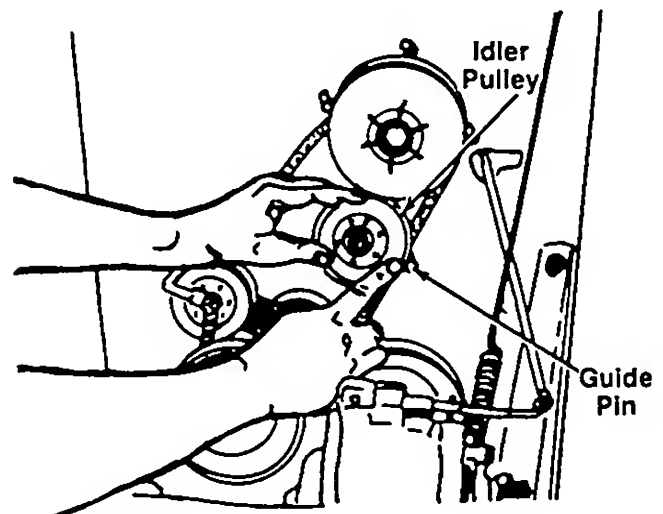

FIGURE 24.
11. When sliding the idler pulley on the idler bracket, be certain the belt is between the pulley and guide pin. See figure 24.